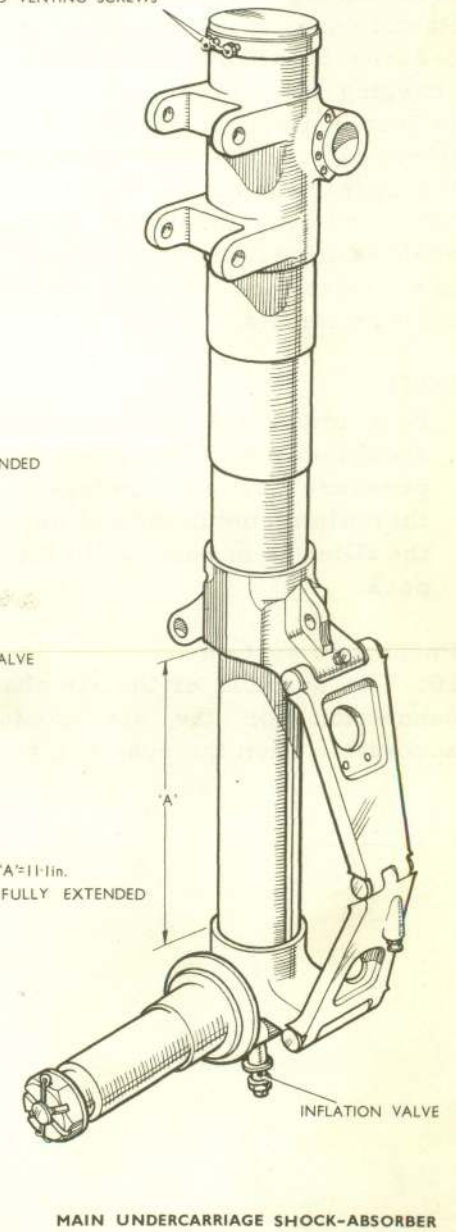

Fig. 4 Shock-absorber inflation diagrams
13. The location of the inflation valves for the main and nose undercarriage shock-absorbers is shown in Fig. 3 whilst the respective inflation pressures relative to aircraft loading are shown graphically in Fig. 4; thus the need to jack up the aircraft for routine pressure checks is eliminated. Ensure that the ground locking device is removed from the radius rod of each main undercarriage leg before flight. Red indicator flags are attached to these locks which are illustrated in Chap. 1 of this Section. Ensure that the wheel doors of the main undercarriage are in the open position. These doors are spring-loaded to both the open and closed positions and it is possible that they may be inadvertently left in the closed position.